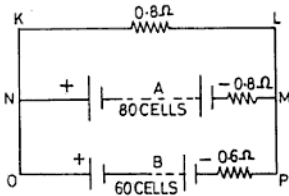

Fig. NE 9.27
- 9.27 Two batteries A and B are connected in parallel and supply to the circuit shown in Fig. NE 9.27. Battery A consist of 80 cells and battery B of 60 cells connected in series. The emf and internal resistance per cell is 2.5 V and 0.01  $\Omega$  respectively. Find the value and direction of current flowing in each battery and in the  $6.8\ \Omega$  resistance.